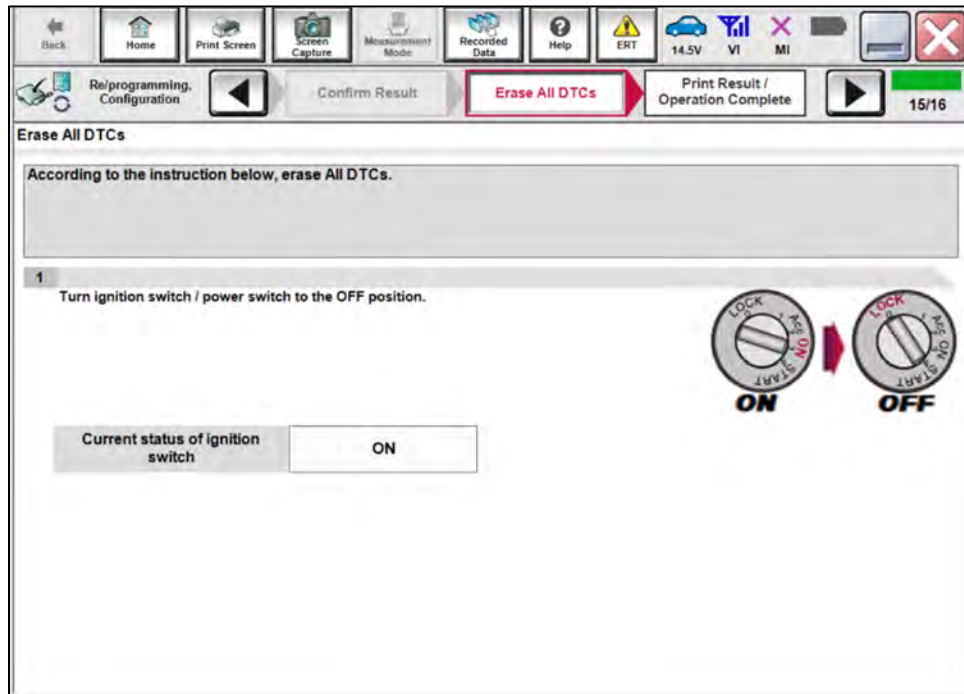

Figure 18
26. Press the power switch one (1) time to turn the EV system OFF (Figure 18), and then immediately go to step 27.